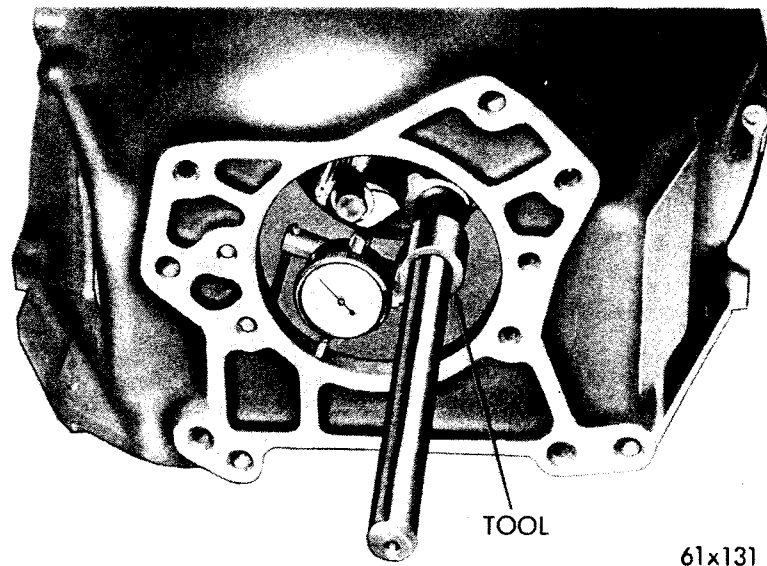

Fig. 70—Checking Clutch Housing Bore
- (1) Mount Tool C-870 with dial indicator C-435 on flywheel.
- (2) With flywheel turning Tool C-771, crank engine while noting dial indicator needle deflection. Out-of-round of bore must not exceed .005 inch total indicator reading (See Fig. 70).